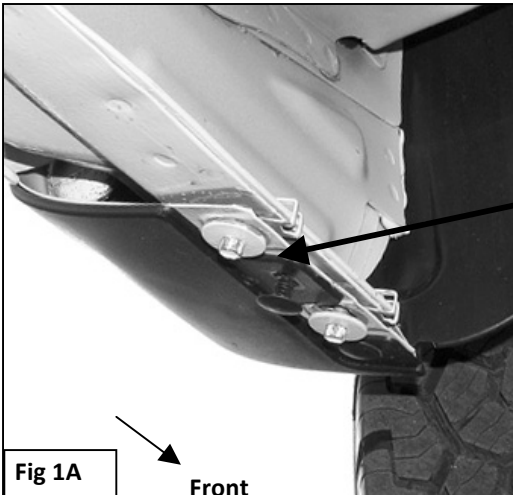

Fig 1A
2. Starting at the front of the driver side of the vehicle, remove the two small hex bolts and the metal clips holding the bottom of the fender to the body, (**Figure 1A**). **NOTE:** Use a small flat screwdriver to